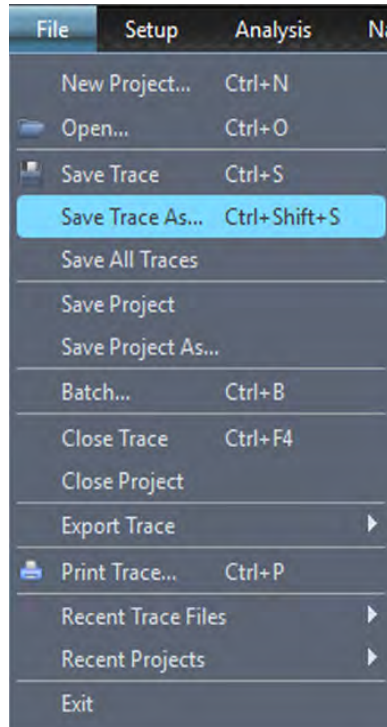

Figure 4.68: Save Trace As
1. To save the Trace, click **File** → **Save Trace As**. See Figure 4.68.